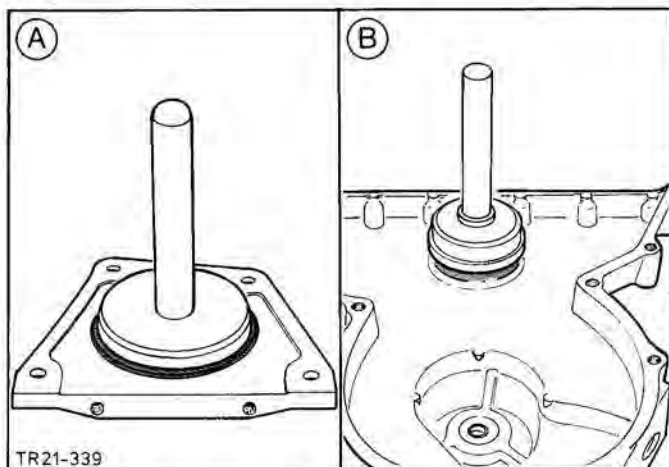

Fig.49. Fit oil seals.
32. Press in oil seal of carrier using special tool 21-030 and oil seal of timing cover using special tool 21-059, Fig.49.